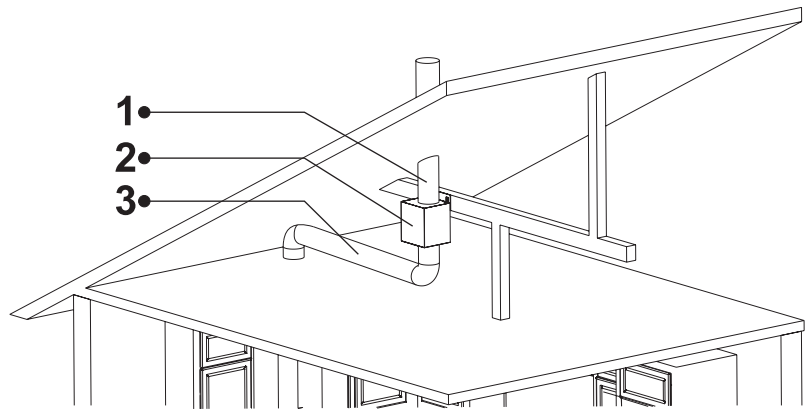

Fig. 11
**3.** ➤ Connect external motor unit pipe connections (Fig. 11).